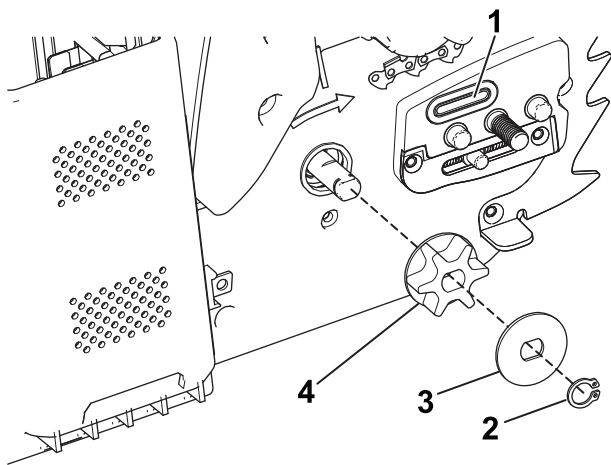

Figure 30
5. Remove the clip, spacer, and drive sprocket from the chain saw (Figure 30).
7. Check the oil passage (Figure 30) for debris and clean the area if necessary.